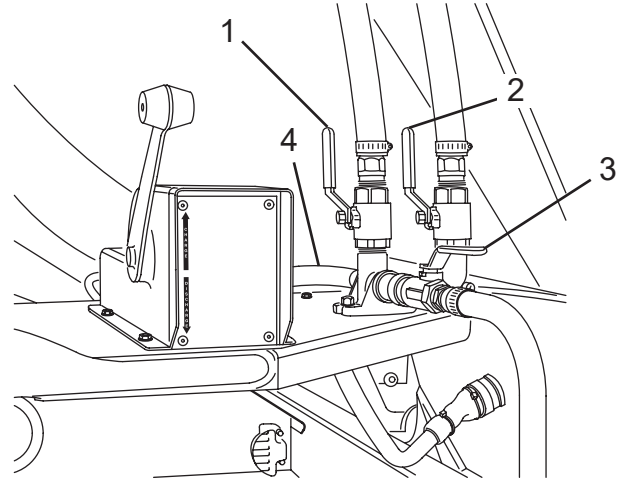

Figure 85
5. Open wash-out hose valve (Figure 85, Item 3) at the rear of the Mixer and allow water to drain.
6. Open drum wash-out valve (if equipped) (Figure 85, Item 1), and add-water valve (Figure 85, Item 2) and allow water to drain.
10. Close the drum wash-out valve (if equipped) (Figure 85, Item 1) and add-water valve (Figure 85, Item 2).
13. Open the drain petcock located at the lowest point in the supply hose (Figure 85, Item 4).